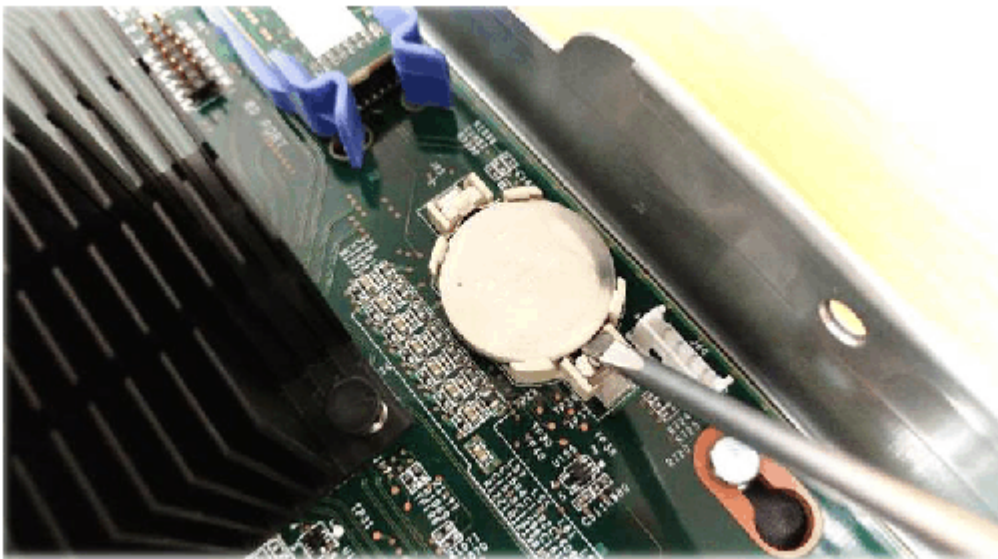

Figure 80. Replacing a CMOS battery
4. Use a flat head screwdriver to gently pop the CMOS battery out of the battery holder, as shown in Figure 80 on page 131. However, do not remove or loosen any screws in the node canister.